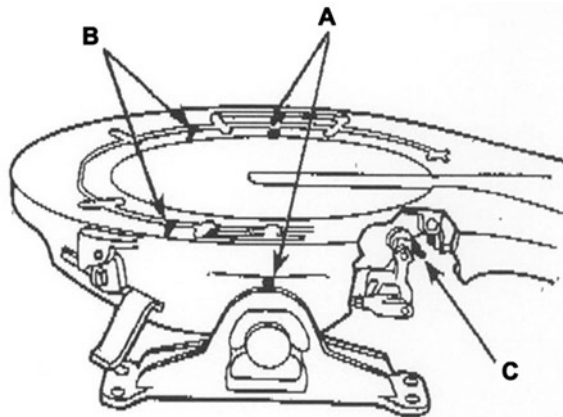

Figure 2-37. Fifth wheel lubrication points.
- Top plate—Use grease fittings (fig. 2-37, Location B) and direct application to spread the wheel grease all over the fifth wheel mating surface. Do not exceed $\frac{1}{8}$ inch, except in the indented “grease pocket” areas.
- Support bracket trunnions—Use the available grease fittings (fig. 2-37, Locations A & C) to lubricate these areas.